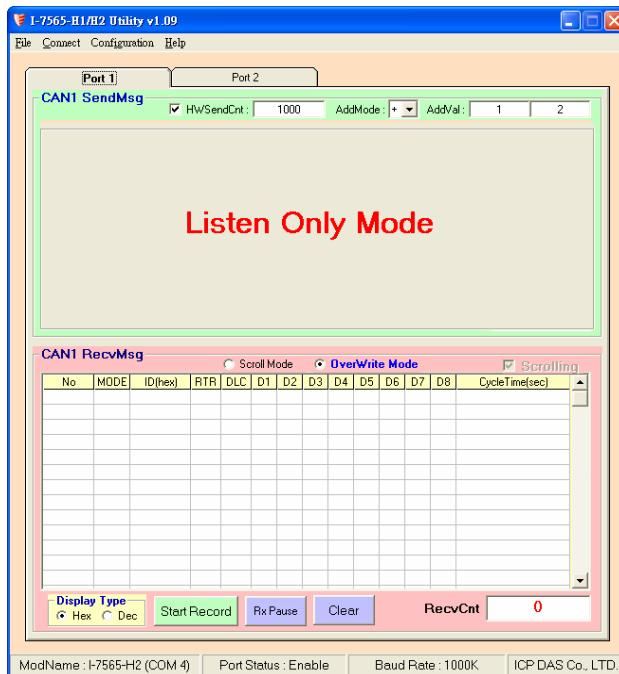

Figure 4-2-1: LOM Screen of I-7565-H1/H2 Utility
1. "Listen Only Mode" (LOM) function is supported by I-7565-H1/H2 Utility v1.09 and FW v1.05 or newer. The LOM screen is like Figure 4-2-1. (In LOM, CAN message sending function is disabled.)